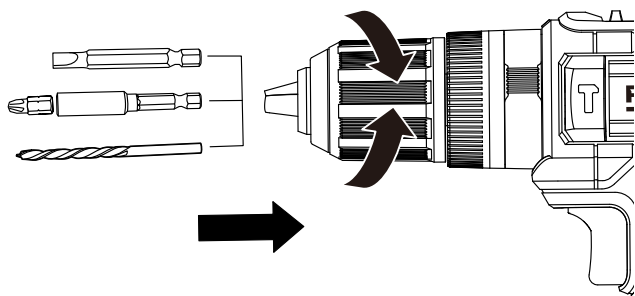

Figure 3
3. CHUCK ADJUSTMENT (SEE FIG. 3)